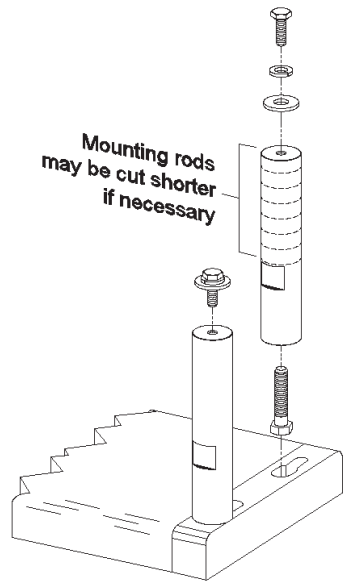

Figure 5
3. Insert the head of each 5/16" nonconductive bolt into the keyhole slot in the rear of the charging bar and secure to each mounting rod (see Figure 5).